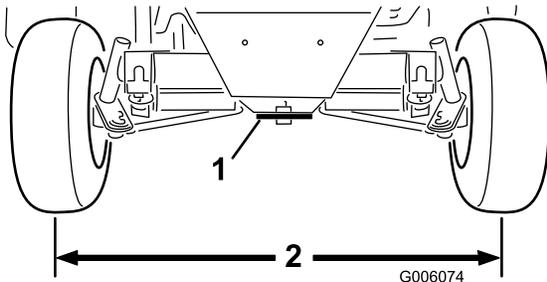

Figure 65
2. Adjust both tie rods until center-to-center distance at front and back of rear wheels is the same (Figure 65).